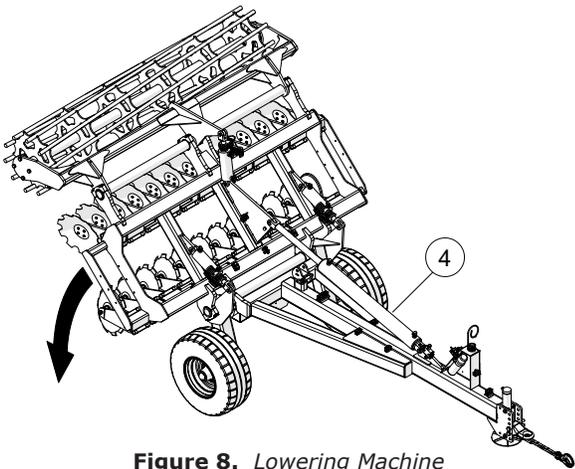

Figure 8. Lowering Machine
3. Extend transport cylinders (#4) to lower machine fully to the ground. When machine is completely to the ground place transport cylinders (#4) into float position. See **Figure 8**.